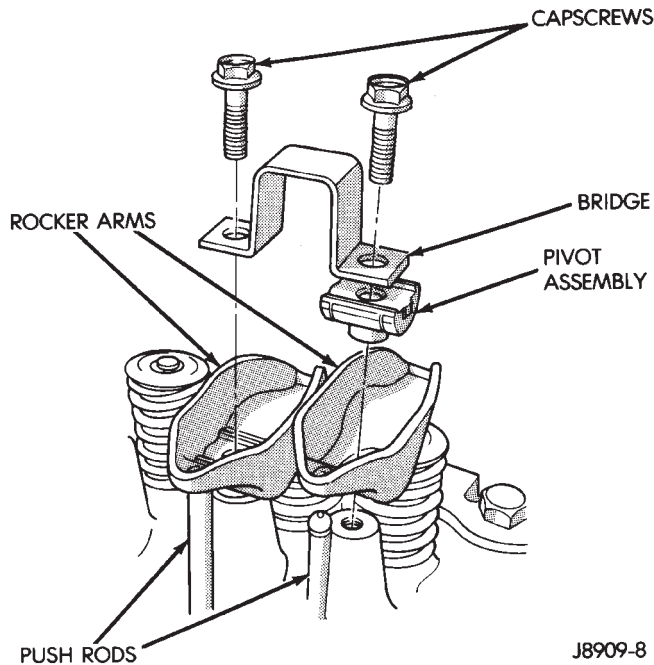

Fig. 32 Rocker Arm Assembly
(3) Remove the capscrews at each bridge and pivot assembly (Fig. 32). Alternately loosen the capscrews one turn at a time to avoid damaging the bridges.
(4) Remove the bridges, pivots and corresponding pairs of rocker arms (Fig. 32). Place them on a bench in the same order as removed.
(5) Remove the push rods and place them on a bench in the same order as removed.